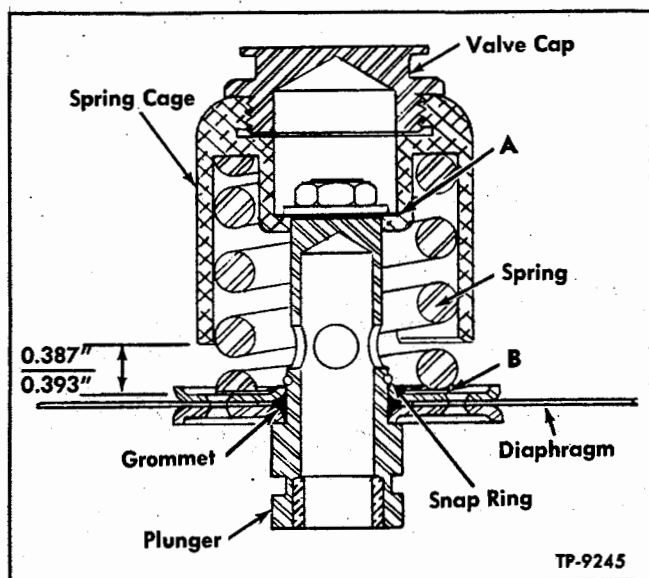

Figure 11—Diaphragm, Pressure Regulating Spring, Spring Cage, and Plunger Assembly
Disassemble Diaphragm and Spring (Fig. 11)
Assemble Diaphragm and Spring (Fig. 11)
4. Check dimension between bottom of spring cage and seat on diaphragm plate. If not within limits shown in figure 11, add or remove shims (A) under flat washer at top of plunger as necessary. After obtaining correct dimension, check preload on pressure regulating spring. If not within 72-80 pounds, add or remove shims (B) under spring as necessary.